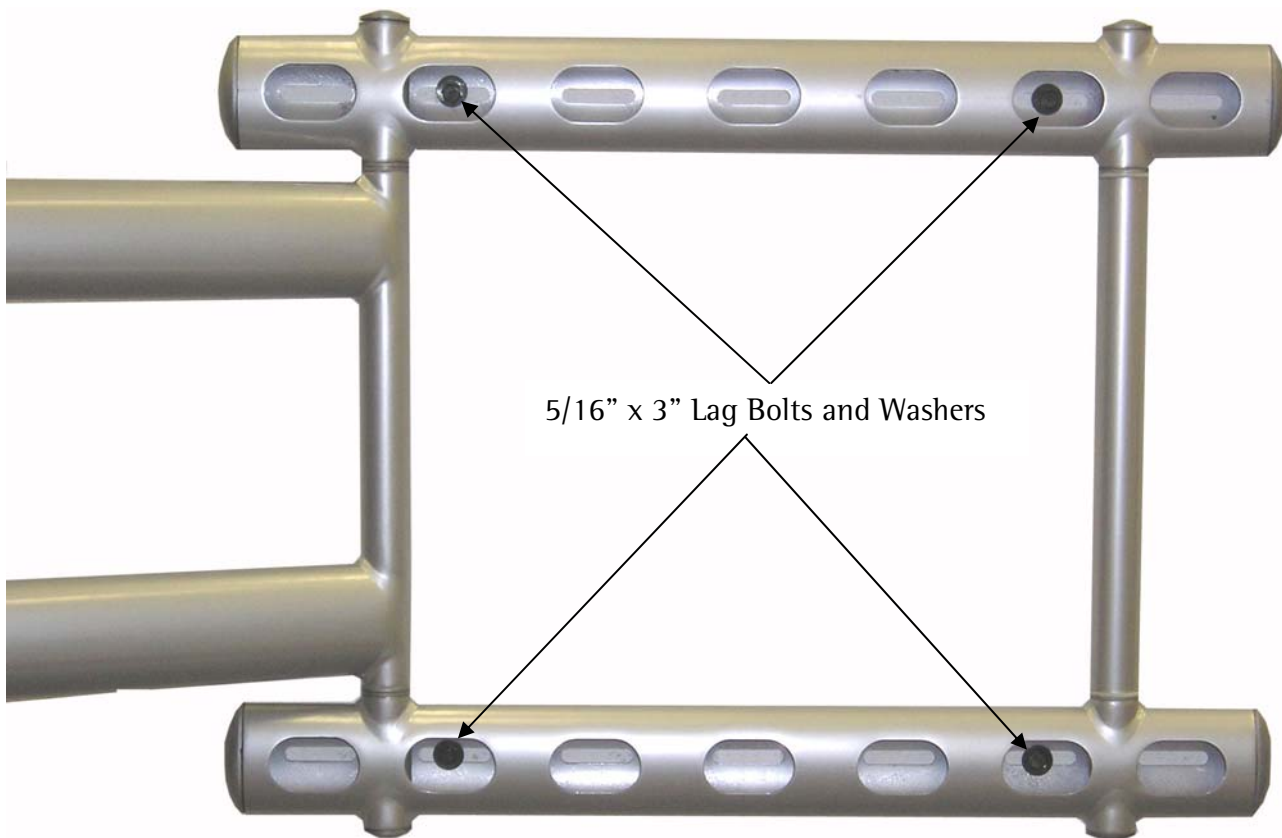

Figure 6
2. Insert four (4) 5/16" x 3" lag bolts and washers into the mounting holes and tighten (Figure 6).